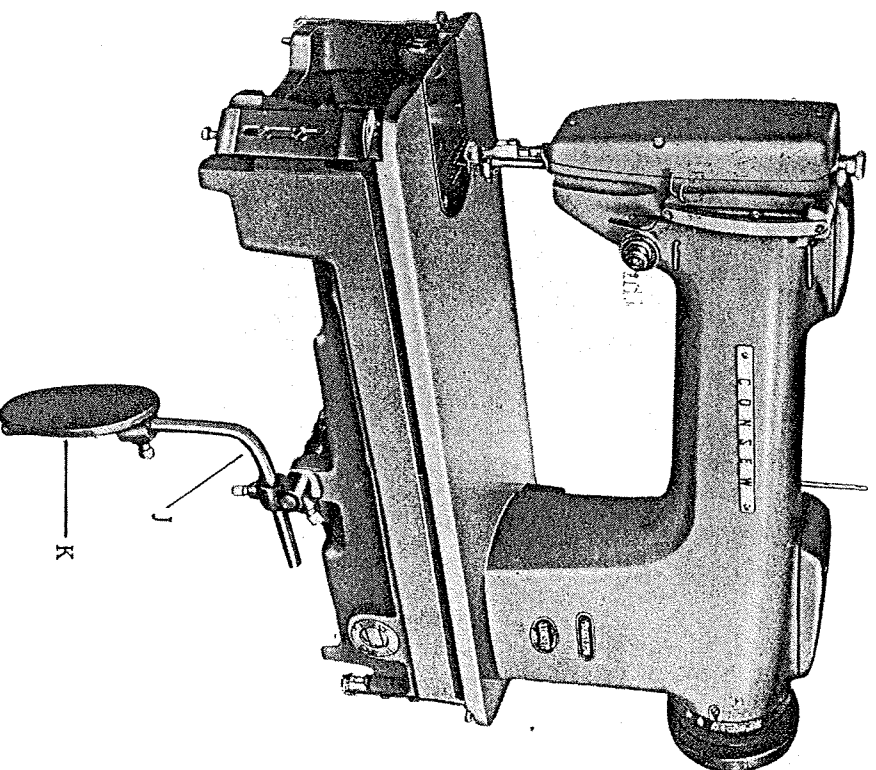

Fig. 12
The knee lifter mechanism is assembled to the oil pan of the machine except that for shipping purposes lever (J) and knee pad (K) are disassembled. After the oil pan has been positioned in the table top and the head set in place and locked to the oil pan, insert lever and knee pad as shown in Fig. 12. Tighten their respective set screws when in most comfortable position for the operator. While lever (J) is shown inserted from the left, it can also be inserted from the right whenever more knee space is desired. Set stops of knee lifter mechanism so that there is only little play before it starts to lift the presser foot and to allow raising of the presser foot all the way but not beyond the maximum. This will avoid any possible strain on the lifter mechanism and the related parts of the head itself.